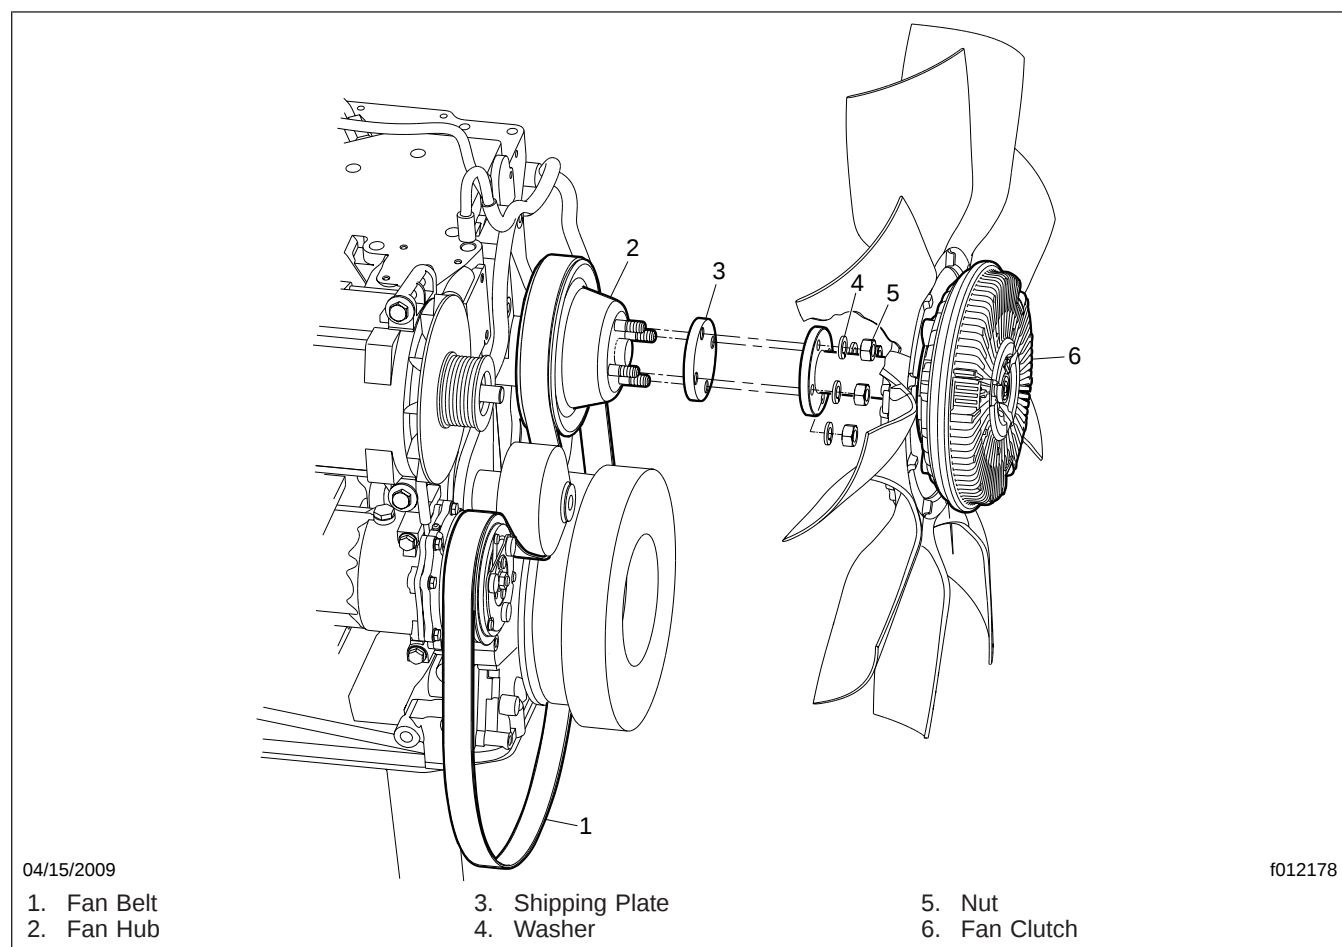

Fig. 1, Removing the Shipping Plate
3. Remove the four nuts attaching the fan hub to the fan clutch. See Fig. 1.